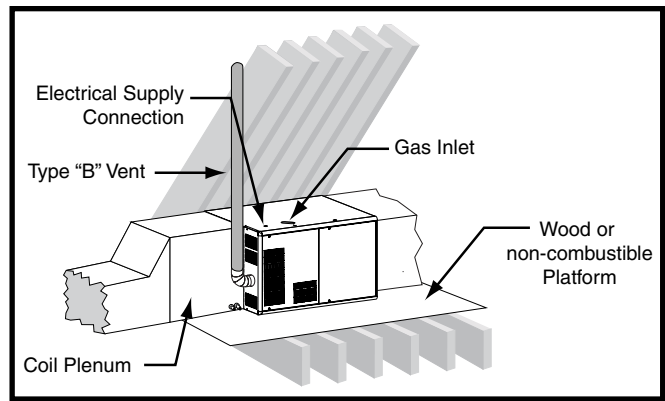
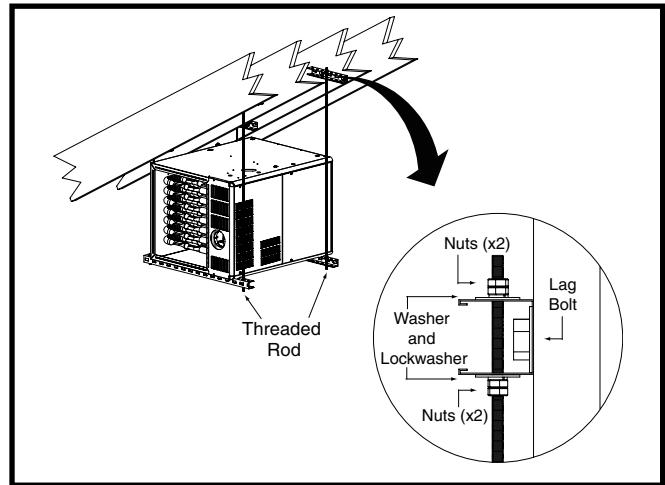

Figure 7. Horizontally Installed on a Platform
Figure 8. Horizontally Suspended in Attic
- The Ultra-Low NOx series gas furnace can be installed horizontally (Figure 7) in an attic, basement, crawl space or alcove. They can also be suspended from a ceiling in a basement or utility room in either a right to left airflow or left to right airflow as shown in Figure 8.
- If installing the furnace with an evaporator coil (in an attic), it is required that a drip pan be placed under the furnace and the evaporator coil. If the installation is on a combustible platform (Figure 7), it is recommended that the drip pan extend at least 12 inches past the top and front of the furnace. **NOTE:** Although it is not required to use a drip pan for heat only applications, state and local codes may require it.
- If suspending the furnace from the ceiling, assemble a support frame (Figure 8) using slotted iron channel and full threaded rod. Fasten the frame together with nuts, washers, and lockwashers. Secure the support frame to the rafters with lag bolts. The furnace can also be suspended using steel straps around each end of the furnace. The straps should be attached to the furnace with sheet metal screws and to the rafters with bolts.